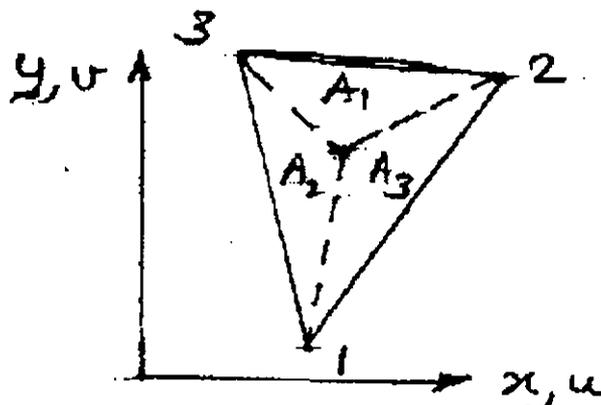

Fig. 5
- (b) (i) A constant strain triangular element is shown in Fig. 5. The edge 1-2 is subjected to uniform pressure p_x along x -direction and edge 2-3 is subjected to uniform pressure along y -direction. Obtain the element nodal load vector. (10)